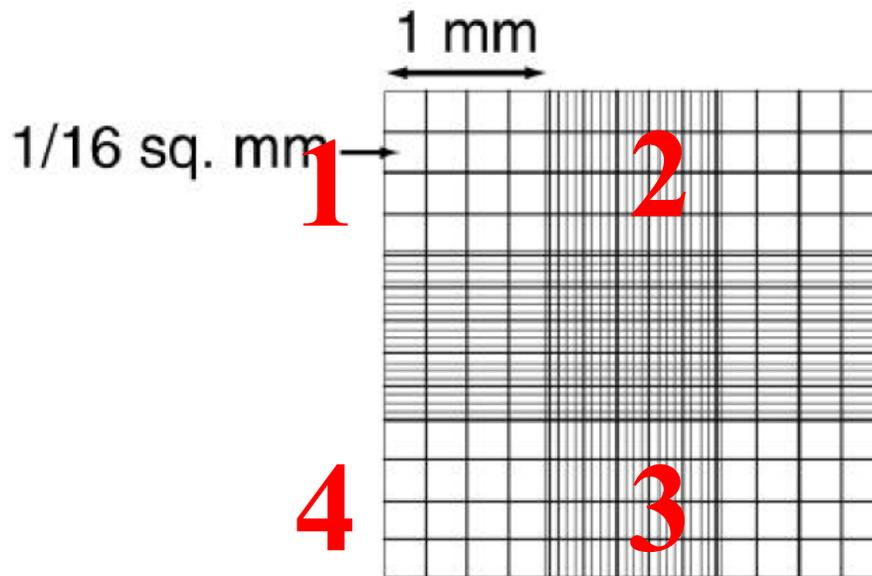

Figure 2: Diagram of hemacytometer quadrants
- 9.2. Figure 2: Diagram of hemacytometer quadrants